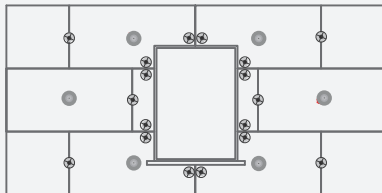

Figure 2
- Use more fixings on the corners close to junctions. (Figure 2)